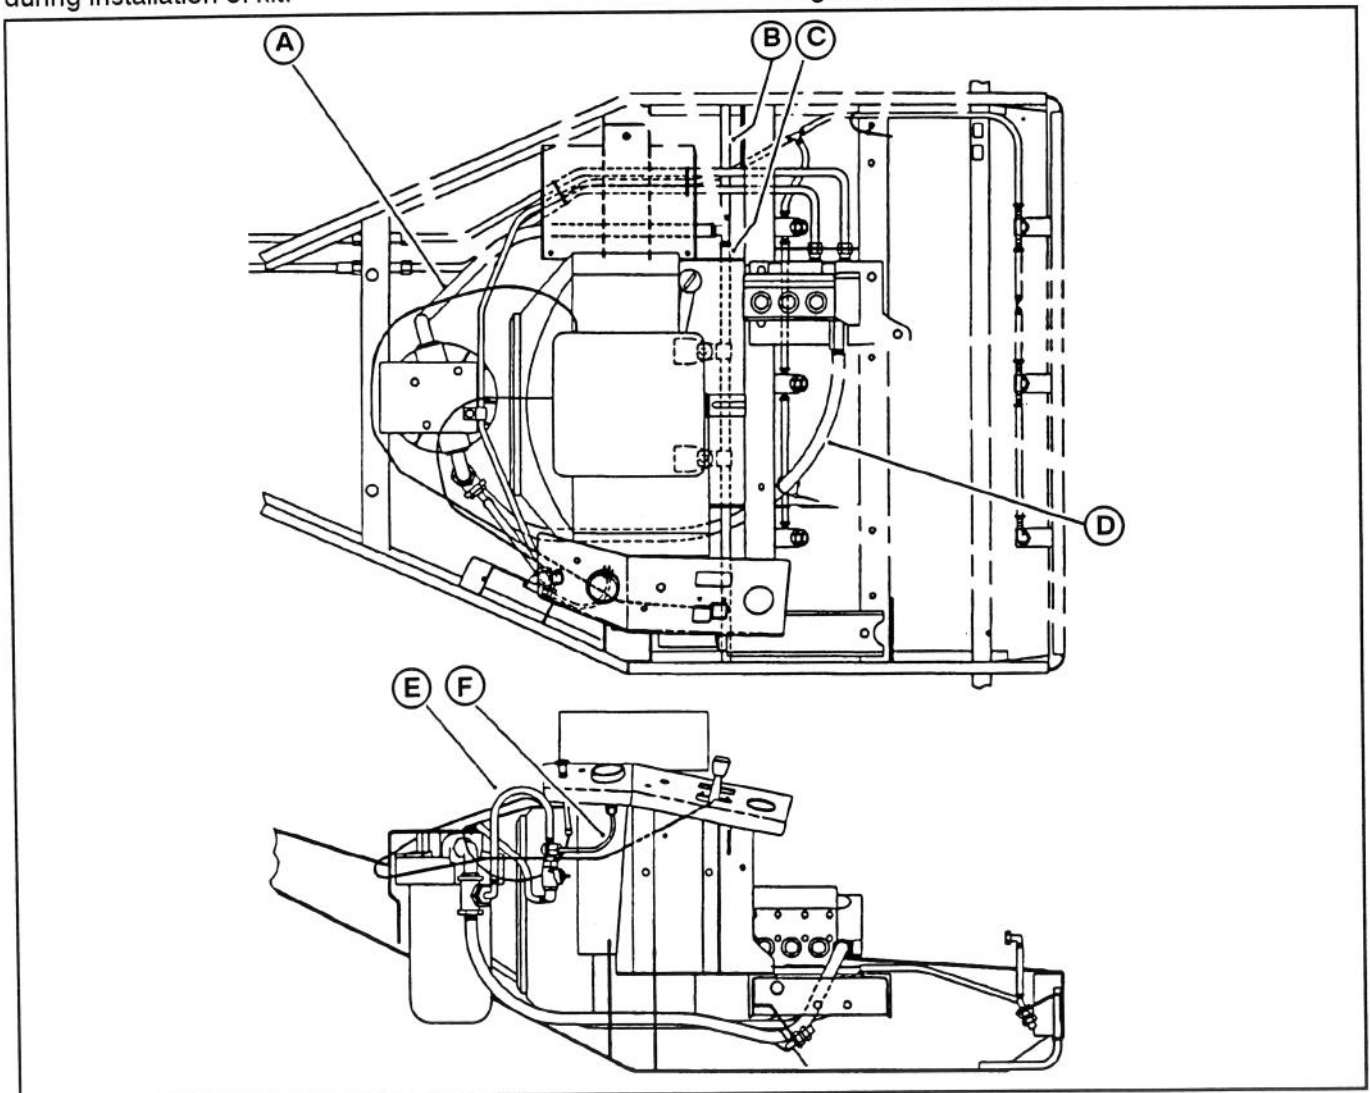

Figure 1
2. Remove (4) capscrews and washers securing fuel tank to aerator frame. This will allow tank to be moved during installation of kit.
3. The following hoses, fittings and clamps, shown in figure 1, must be removed from machine. Retain clamps for use in installation of kit: